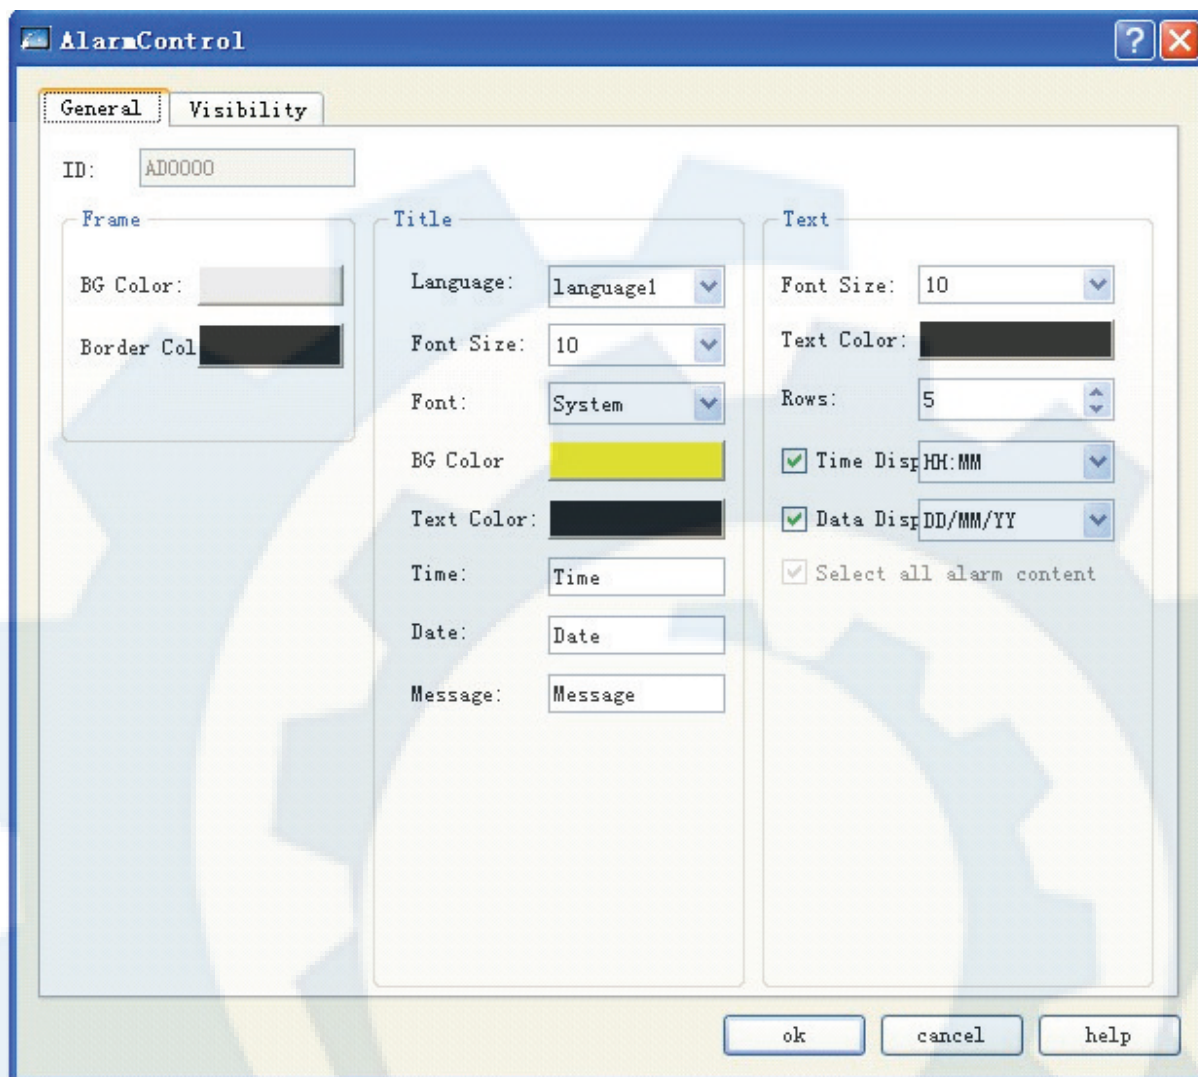

Figure 4-63: Alarm display dialog
- Click Alarm Control command in Tool menu or click Alarm Control button  in the tool bar, and then a dialog as shown in Figure 4-63 will appear.